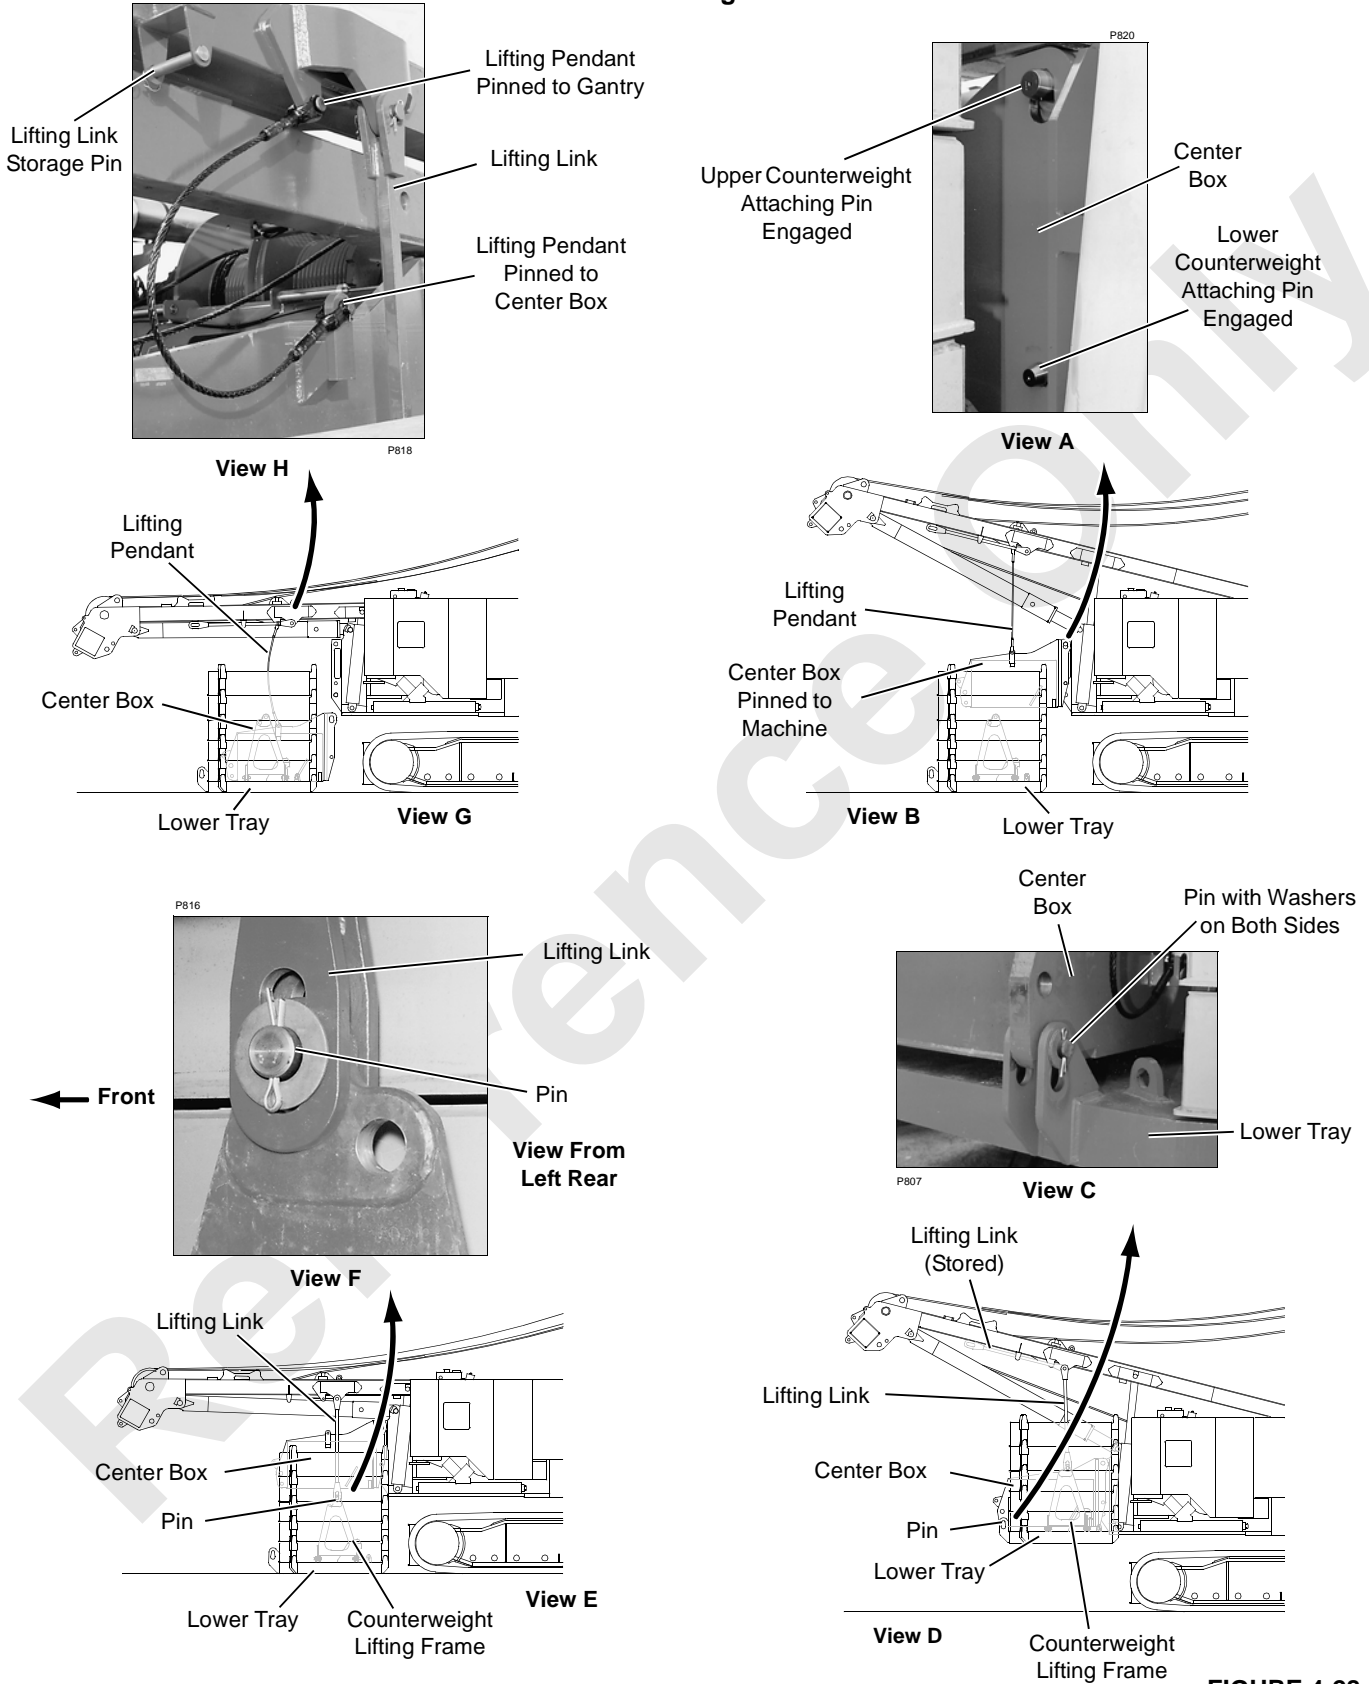

FIGURE 4-28
Unless otherwise specified, see Figure 4-28 for following procedure.
2. Position crane so it is in line and centered with assembled counterweight (Figure 4-28, View G).
4. Lower lifting links from stored position (Figure 4-28, View H).
5. Attach lifting pendants (stored on the side of the center box) to lugs on gantry (Figure 4-28, View H).
6. Disengage upper and lower counterweight attaching pins (Figure 4-28, View A) with switch on setup remote control. Switches for pins must be held in disengaged position until counterweight is in position.
7. Raise gantry and center box with switch on setup remote control until gantry raising cylinders are fully extended (Figure 4-28, View B).
8. Engage upper counterweight attaching pins (Figure 4-28, View A). *Visually check that pins are engaged.*
10. Engage lower counterweight attaching pins (Figure 4-28, View A). *Visually check that pins are engaged.*
13. Travel machine so it is in line and centered with lifting frames on lower tray (Figure 4-28, View E).
14. Pin lifting links to **front holes** in lifting frames (Figure 4-28, View F).
15. Raise gantry and remaining counterweight assembly with switch on setup remote control until pin holes in lower tray line up with holes in center box. Install pins and washers (Figure 4-28, View C).
17. Unpin lifting links from lifting frame and store lifting links on gantry (Figure 4-28, View H).
2. Pin lifting links to counterweight lifting frame. Links must be pinned to **front holes** in lifting frames (Figure 4-28, View F).
4. Lower gantry until counterweight is on ground and lifting links are loose in slots. Unpin lifting links from lifting frame (Figure 4-28, View F).
5. Attach lifting pendants, stored on the side of the center box, to lugs on gantry (Figure 4-28, View H).
6. Disengage lower counterweight attaching pins (Figure 4-28, View A).
7. Raise gantry and center box until upper counterweight is supported by lifting links and upper attaching pins are loose in slots (Figure 4-28, View A).
8. Disengage upper attaching pins (Figure 4-28, View A).
11. Raise lifting links and store on gantry (Figure 4-28, View H).